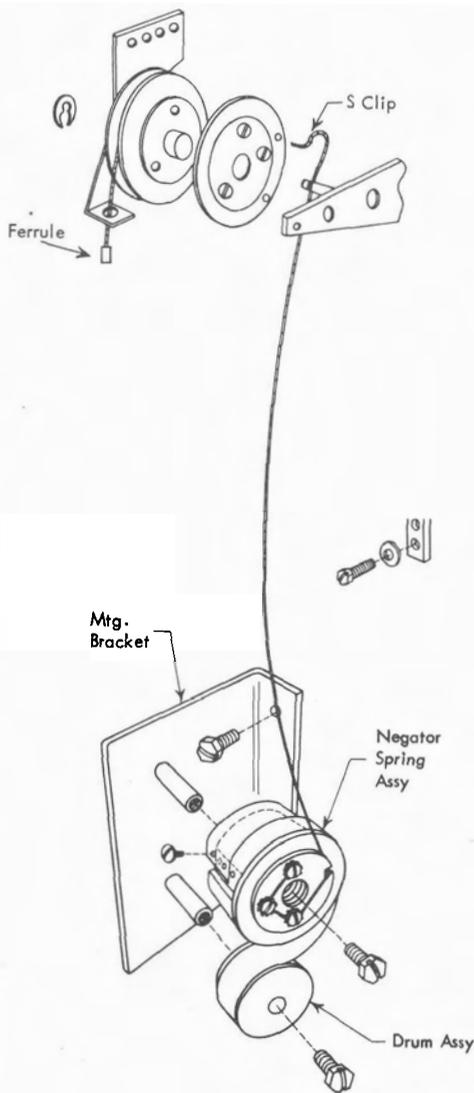

Figure 34. Sliding Glass Spring Drum Pulley Assembly
4. Loosen the three screws on the lower drum assembly (Figure 34).